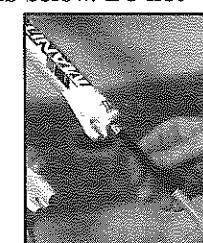

Fig. 45
1. Remove both bolts on the bottom side of the fork with an 8mm allen wrench (Fig. 45) and a 4mm Allen wrench.
Another effect of conventional low spoke count wheels is that as each spoke has its tension released at the bottom of the wheel, it allows the rim to move slightly out of true, so the wheel does not track straight (Fig. 45). With Paired Spoke Design, the rim runs straight because the pairs of spokes do not exert unbalanced force on the rim.